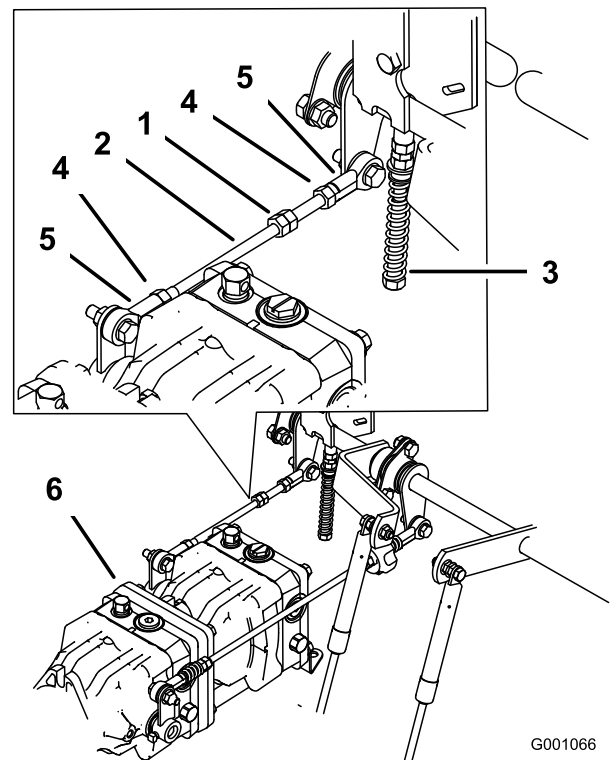

Figure 81
1. Loosen the locknuts at the ball joints on the pump control rod (Figure 81).
3. Adjust the pump rod length by rotating double nuts on rod, in the appropriate direction, until wheel is still or slightly creeps in reverse (Figure 81).
6. Tighten the locknuts at the ball joints (Figure 81).